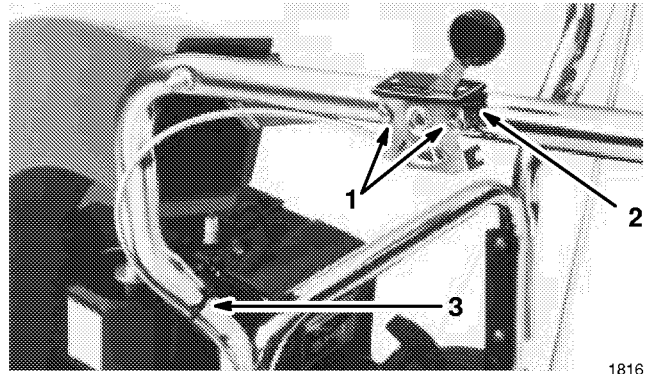

Figure 6
6. Attach the throttle control assembly to the outside of the left side of the upper handle with two self-tapping screws, star washers, and nylon spacers (Fig. 6).
7. Secure the cable to the handle with the cable tie (Fig. 6).